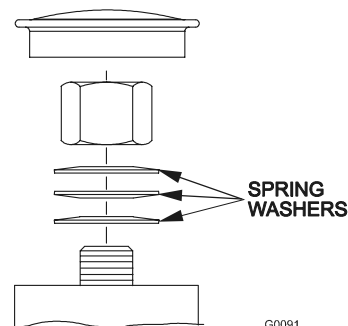

FIGURE 20
- a) Remove dust cap from caster and tighten nyloc nut until washers are flat and back off 1/4 of a turn to properly set the pre-load on the bearings. If disassembled, make sure the spring washers are reinstalled as shown in Figure 20.